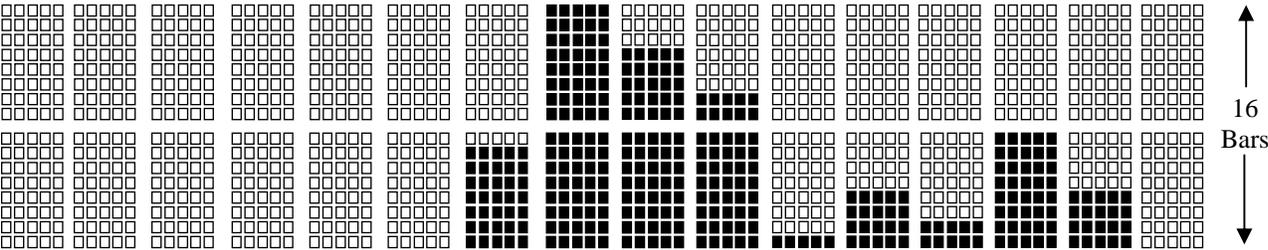

Figure 3-6, Bargraphs with 16x2 character displays
Figure 3-6 also shows that a 16x2-character display can produce bar graphs with up to 16 vertical bars (using 2 characters high). In Figure 3-6, we started the bar graph on the 7th column leaving 6 characters on each line for other information (the name of the graph or other).
- `val` is the number of vertical bars you want to have turned on (a number between 0 to 8 in this example). Note that in Figure 3-6, we actually used two vertical characters to 'extend' the height of the bargraph.
The code below shows how we displayed the bars in Figure 3-6. Here, we assume that your application code filled the table `VertBarTbl[]` with the desired values to display. Each entry in the table needs to be a number between 0 and 16, inclusively. A higher value would display only 16 bars.